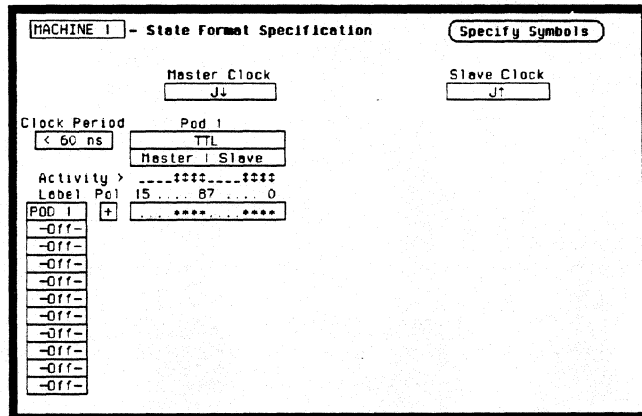

Figure 3-24. Format Specification for Data Test 5
- Set up the State Format Specification as in figure 3-24. Assign the falling J clock to the Master Clock and the rising J clock to the Slave Clock. Refer to steps a through d after figure 3-24 if you are unfamiliar with menus.